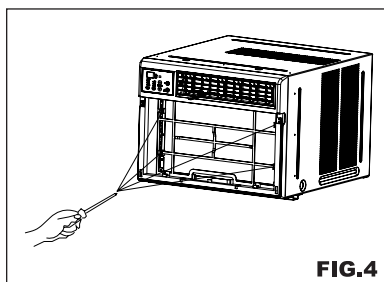

FIG.4
- Locate the four front screws and remove. These screws will be needed to re-install the front later (See FIG.4).